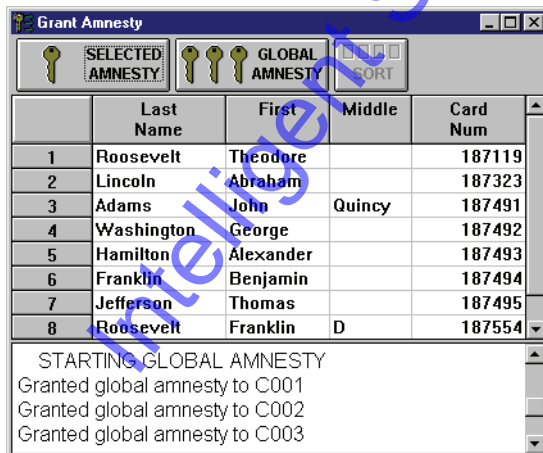

Figure 6-35: User Data Sorted by Card Number
2. Click on the  button. All data in the spreadsheet is now reorganized by card number from the lowest number to the highest number. (see Figure 6-35).